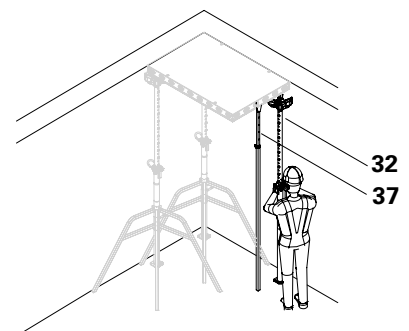

Fig. D2.04
5. Place the third prop with DFH prophead (**32**) at the end of the panel in an inclined position from the inside and align outwards. Spacing 1.20 m (Fig. D2.04)